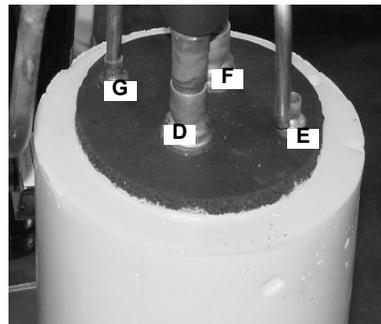

Figure 25.
30. Place the foamed accumulator assembly orienting the suction line outlet, (D) to the right end of the unit (Figure 25).